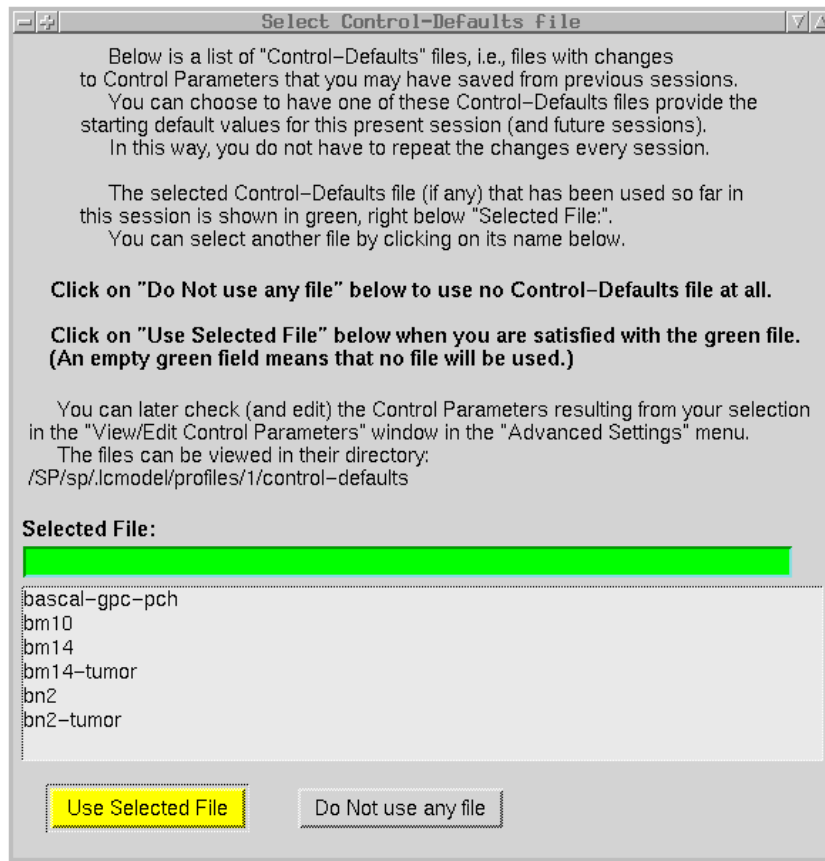

Figure 7.10: Here you select the Control-Defaults file to be used now and in the future.
- Click on "Change Control-Defaults File" to produce the window in Fig. 7.10. (If there is no Control-Defaults file in your directory, then you will be told this and given the chance to continue.)
- As explained in Fig. 7.10, you can select a new Control-Defaults File by clicking on its name, which then appears in the green field.